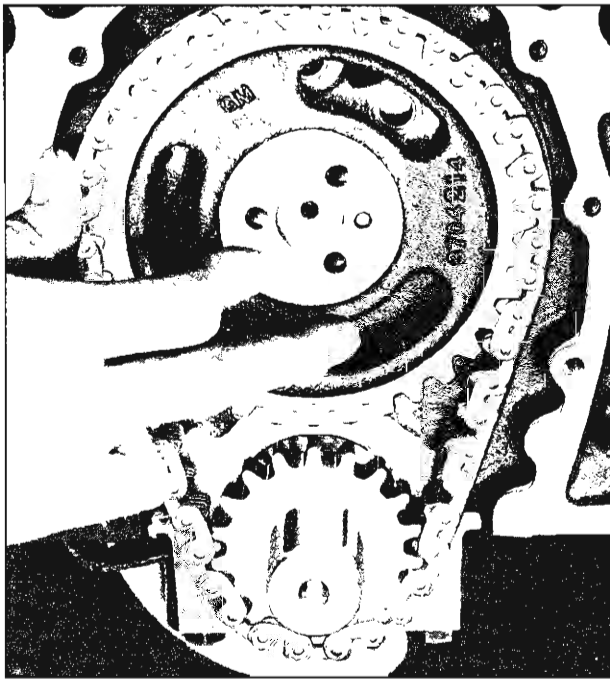

Fig. 146—Installation of Timing Chain
7. Align dowel in camshaft with dowel lobe in camshaft sprocket and install sprocket on camshaft (fig. 146).